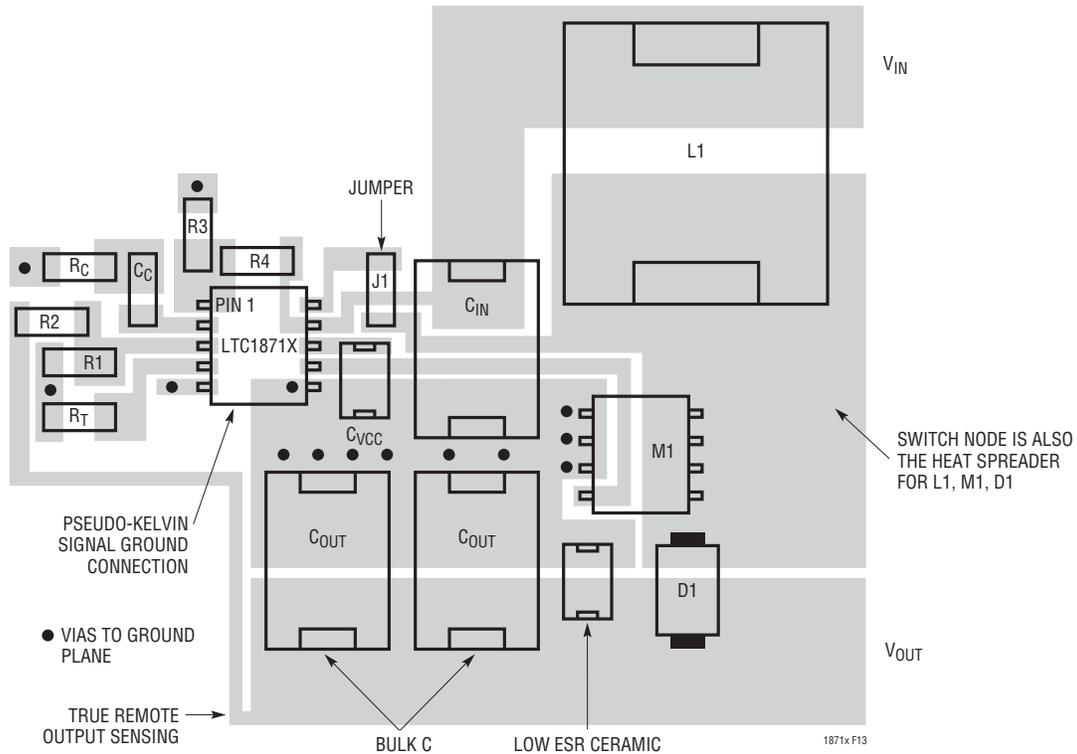

Figure 13. LTC1871X Boost Converter Suggested Layout
- Place the small-signal components away from high frequency switching nodes. In the layout shown in Figure 13, all of the small-signal components have been placed on one side of the IC and all of the power components have been placed on the other. This also allows the use of a pseudo-Kelvin connection for the signal ground, where high di/dt gate driver currents flow out of the IC ground pin in one direction (to the bottom plate of the INTVCC decoupling capacitor) and small-signal currents flow in the other direction.